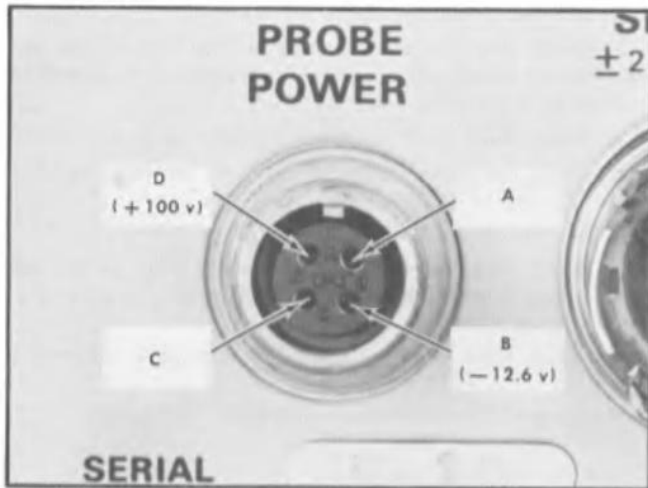

Fig. 5-5. Terminal lettering of PROBE POWER connector as seen from the front of the instrument.
a. Load the PROBE POWER filament circuit either by connecting a cathode-follower probe to the PROBE POWER connector, or by connecting a 70-ohm 5-watt resistor from pin B of the connector to ground (pin A or C). See Fig. 5-5 for the PROBE POWER connector lettering. If the resistor is used to load the circuit, turn off the indicator oscilloscope power momentarily while installing the resistor.